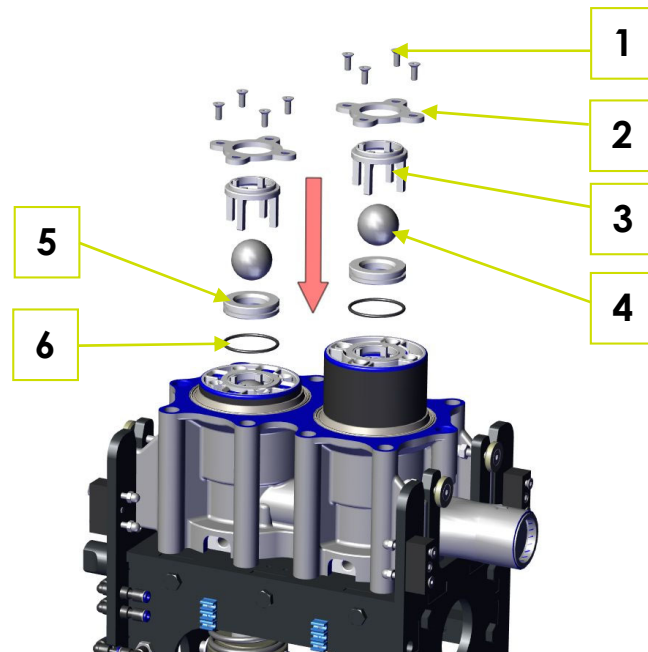

Fig. 6-2: Assembly of the media valves in the cylinder block
1. Insert new valve seats (5), with new O-rings greased with Renolit Unitemp 2 with new O-rings (Fig. 6-2: Assembly of the media valves in the cylinder block).
2. Insert both new balls (4) and cages (3).
3. Insert both retaining stars (2).
4. Clean all eight countersunk head screws M6x16 (1) and grease them with Renolit Unitemp 2.